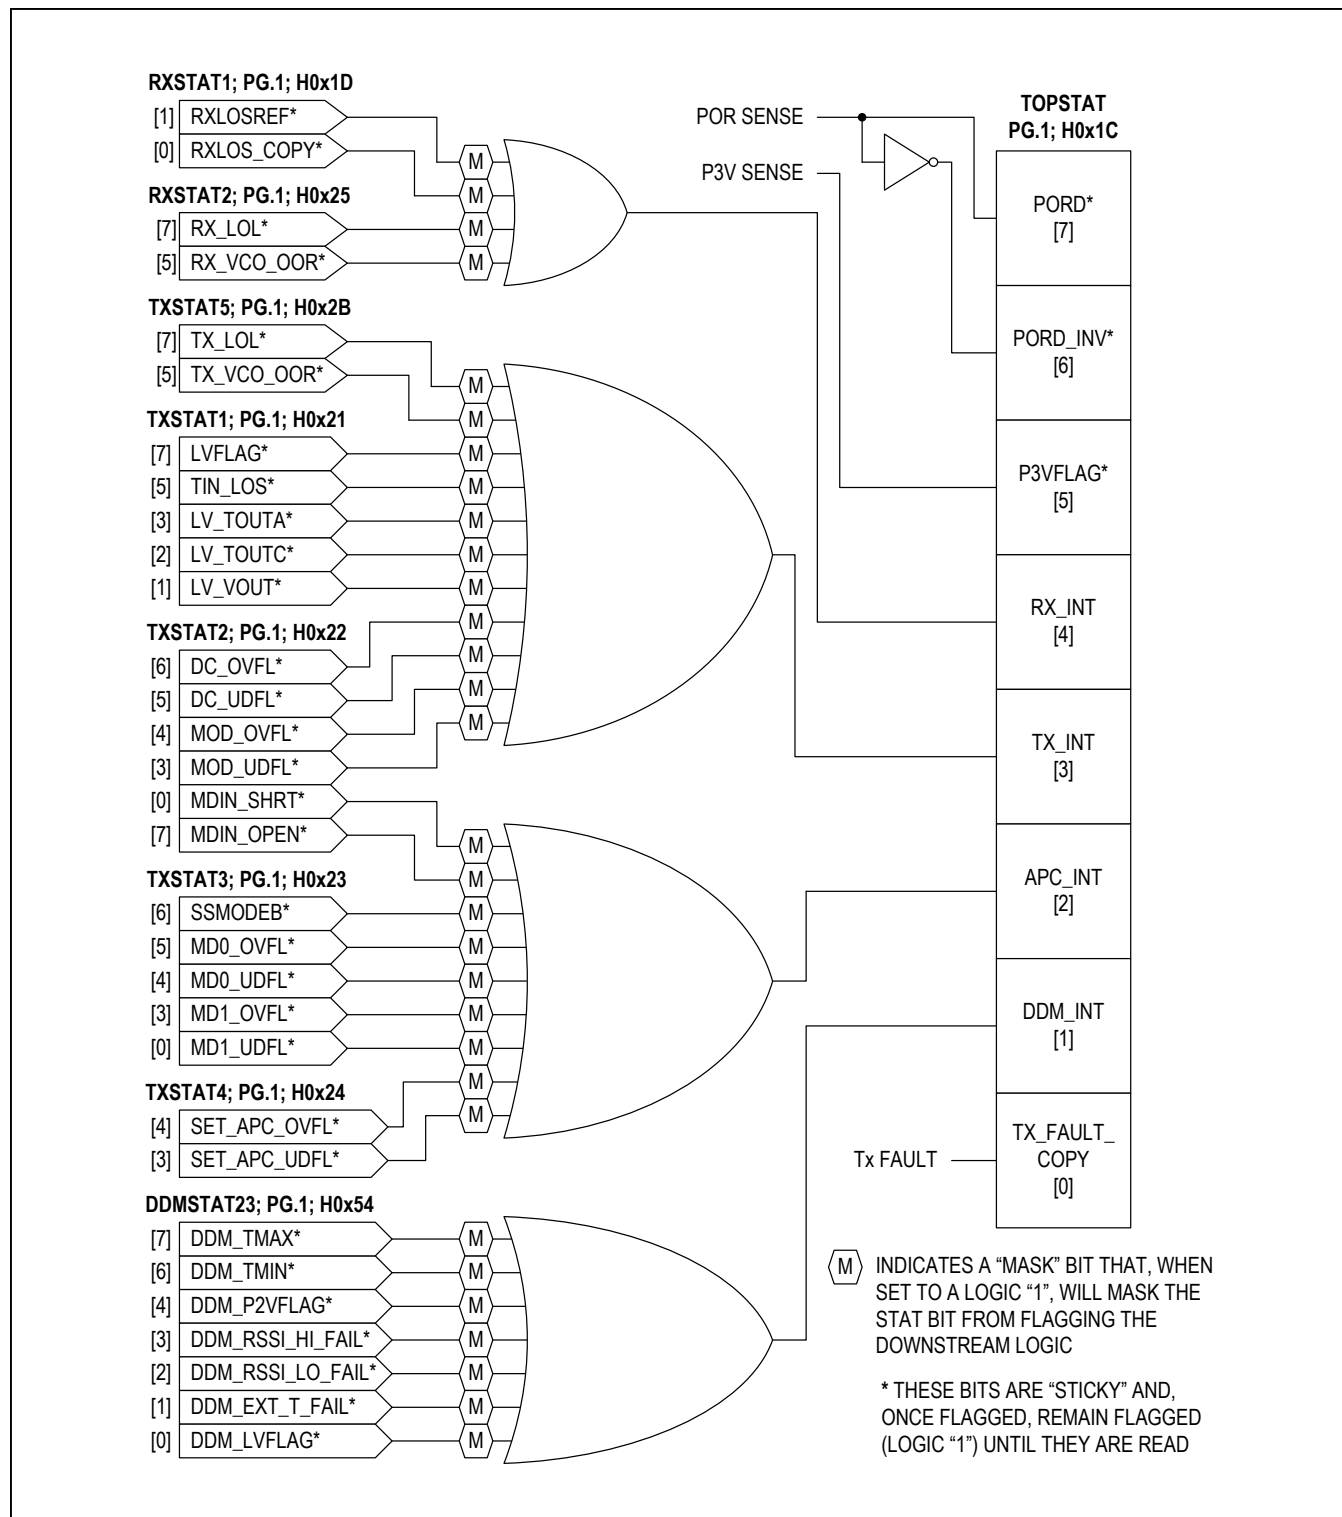

Figure 22. TOPSTAT Logic
ter along with signals Tx fault, P3V sense, and POR. TOPSTAT bits PORD and P3VFLAG is set to “1” after power-up or a POR event. These bits are “sticky” therefore need to be read to be cleared. The TOPSTAT logic diagram is shown in Figure 22.
- b. When INTRPT asserts, read TOPSTAT to narrow down the flag source. The flagged TOPSTAT bit indicates the type of interrupt flagged (APC, DDM, etc...) and which “STAT” register(s) to read to locate the source of the flag, see Figure 22.